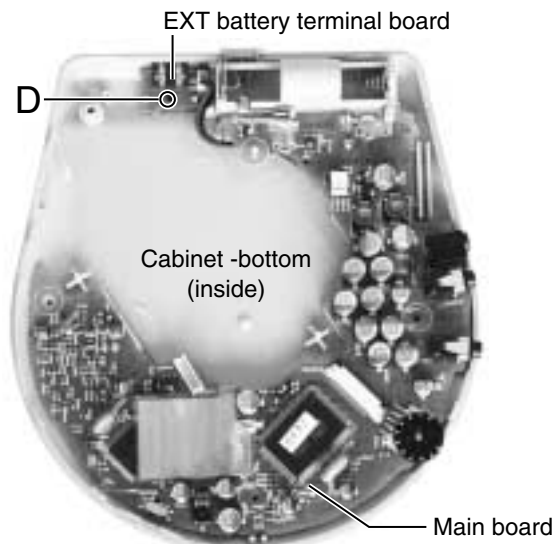

Fig.6
■ Removing the main board & EXT battery terminal board (See Fig.6)